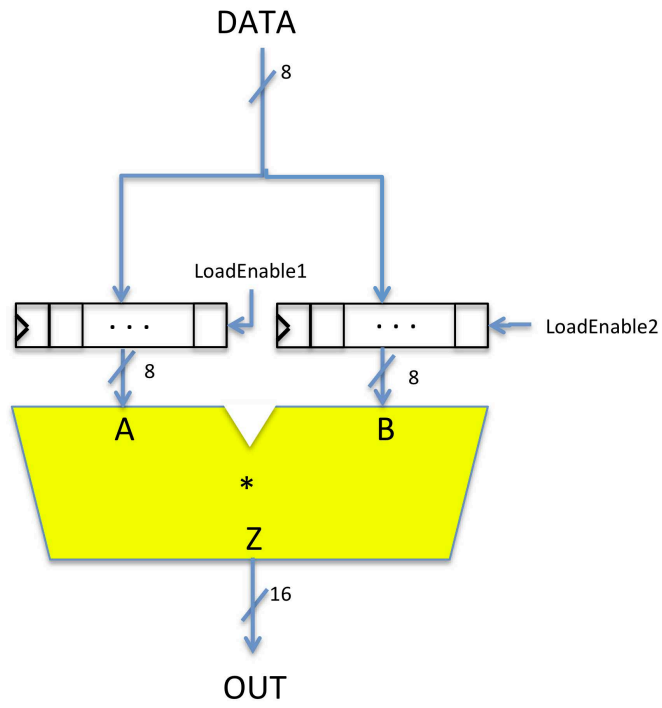

Figure 2: An eight-bit multiplier circuit.
Figure 2 below shows an 8-bit multiplier circuit with registers on its inputs. Each register has an active-high load enable input; that is, at a positive clock edge, the register loads the 8-bit value on its input only if its corresponding enable input is logic-1. Multiplication can be implemented in Verilog with the `*` operator. Observe that the 8-bit multiplier has a 16-bit output; do you know why?
2. Write Verilog code that describes the circuit in Figure 2. You are encouraged to use procedural Verilog.